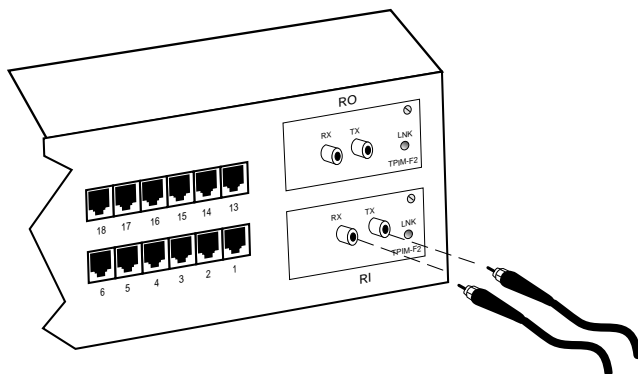

Figure 3-15. The TPIM-F2/F3
2. Attach the fiber labeled 1 to the applicable receive port, labeled **RX**, on the module as shown in Figure 3-15.